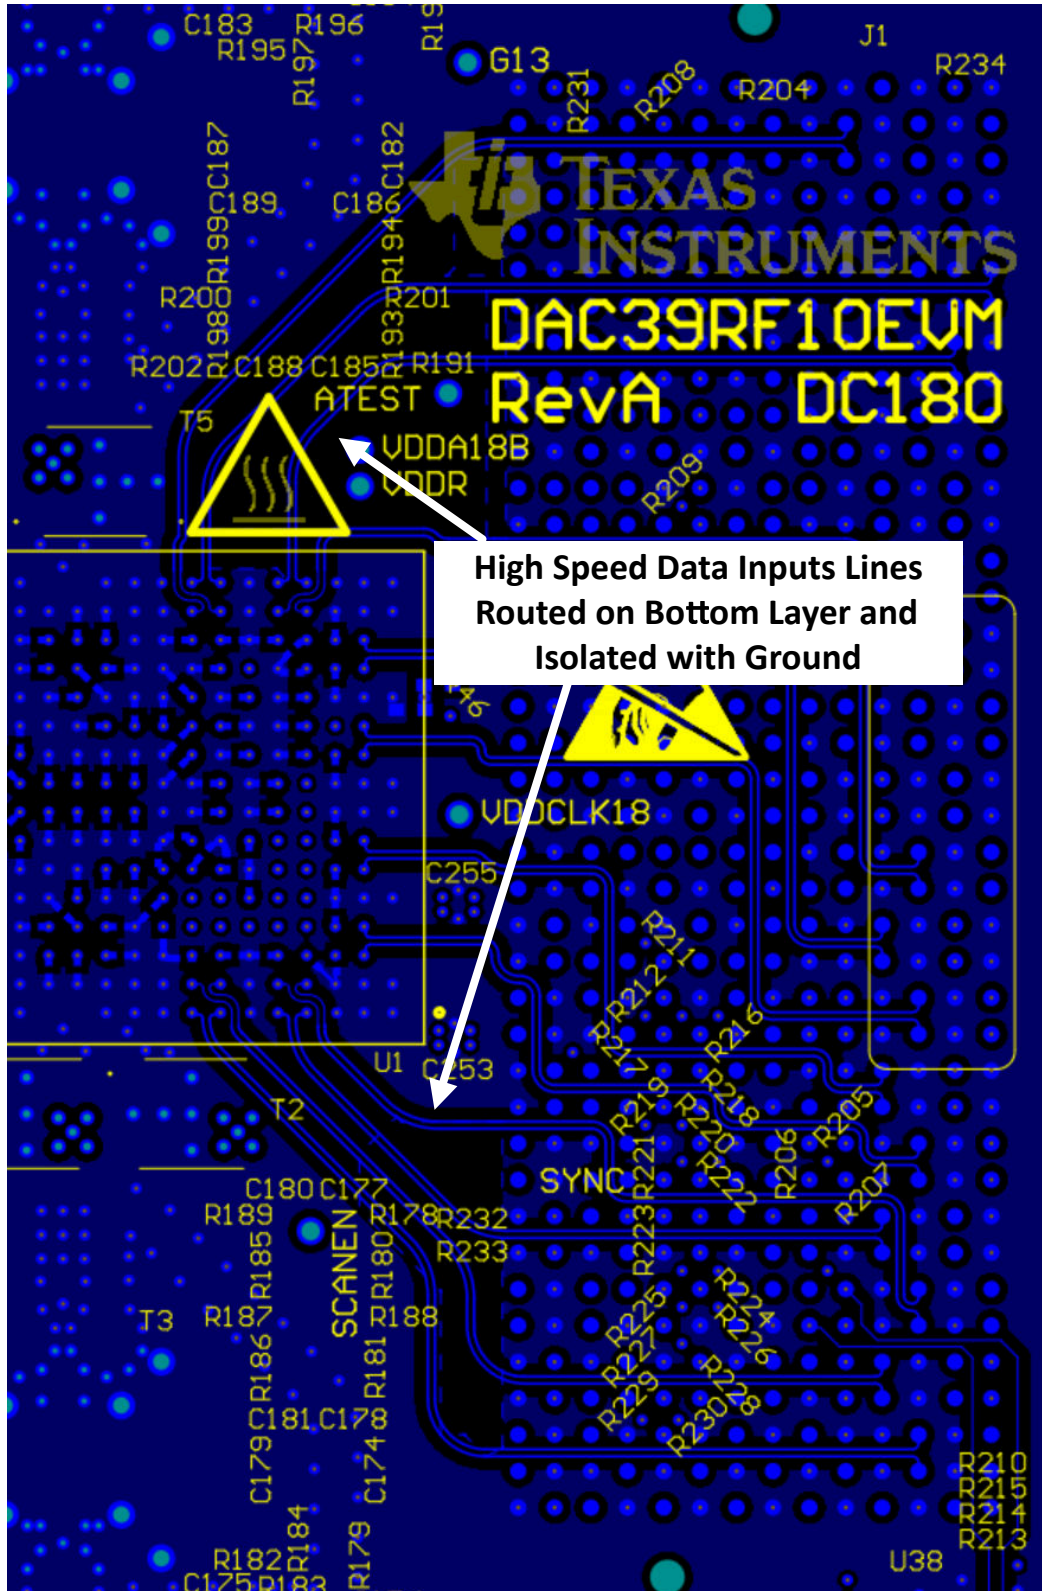

Figure 8-29. Serdes Bottom Layer Routing with Ground Isolation
9. Pay particular attention to potential coupling between JESD204x data input routing and the analog output routing. Switching noise from the JESD204x inputs can couple into the analog output traces and show up as wideband noise due to the high bandwidth of the DAC. Route the Serdes JESD204x data inputs on a separate layer, if possible, from the DAC output traces to avoid noise coupling, see Figure 8-28 and Figure 8-29 as examples.